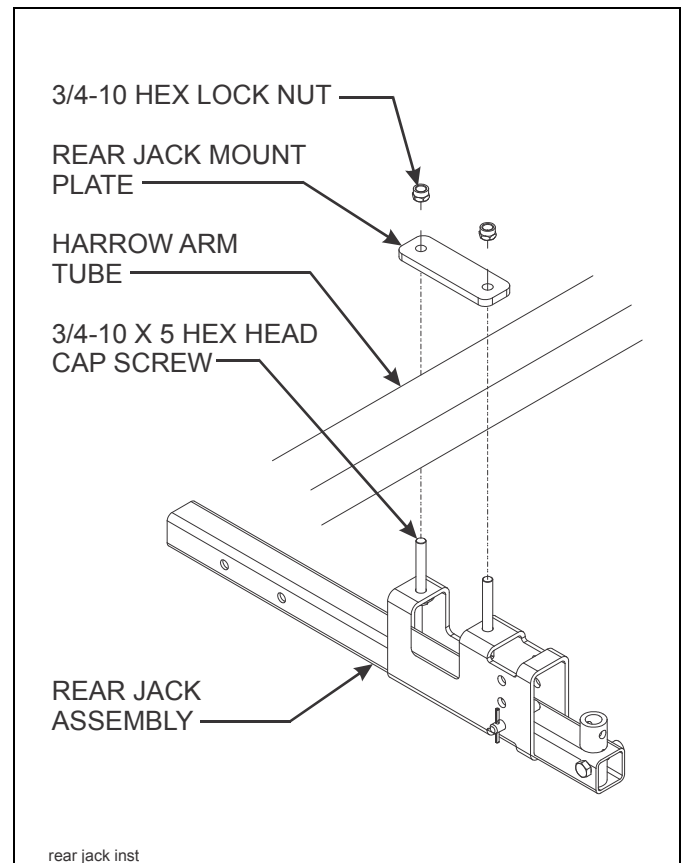

Figure 3-18: Rear Jack Installation
2. Slide rear jack mount plate onto 3/4-10 x 5 hex head cap screws on top of harrow arm tube and hold in place with 3/4-10 hex lock nuts (See **Figure 3-18.**)